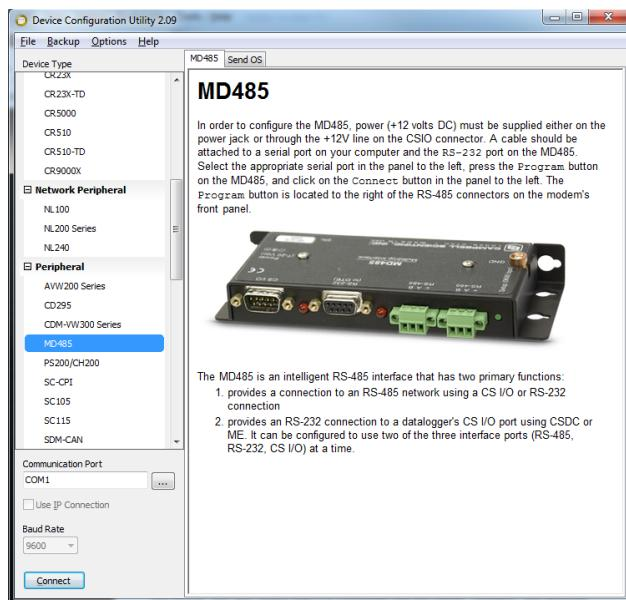

FIGURE 8-12. MD485 Device Configuration screen
3. Open *DevConfig*. Click **Peripheral**. Select **MD485**. Select the **Communication Port**. Push the **Program** button on the MD485. Click **Connect**. The program button is located to the right of the RS-485 connectors on the modem's front panel (FIGURE 8-12).